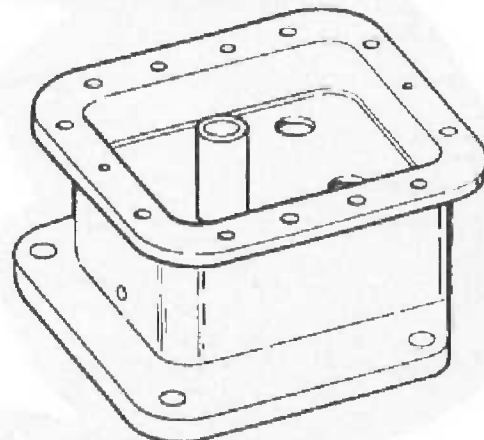

Figure 29 — Drywell assembly
1. Refer to Fig. 29 on Page 25. Reinstall the drywell tube.